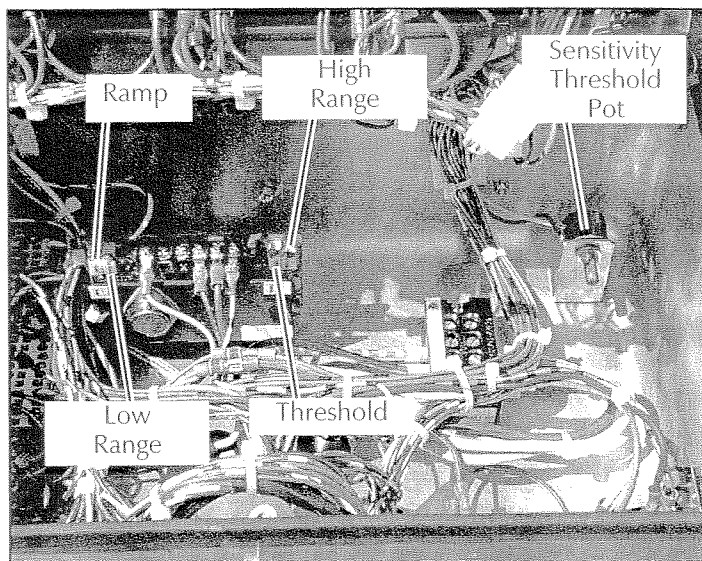

Figure 3-6: Upper Control Box
## PROPORTIONAL CONTROL ADJUSTMENT (Figure 3-6)
1. Adjust sensitivity threshold pot (located in upper control box) to obtain an equal threshold between forward and reverse directions (Figure 3-6).